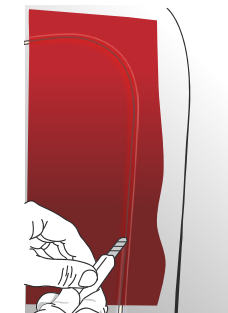

Figure 14
- ▶ Carry out the cutting of the film by using a cutter on the TIRODECO or by cutting it with the WRAPKNIFE cutting thread. (FIG. 14)